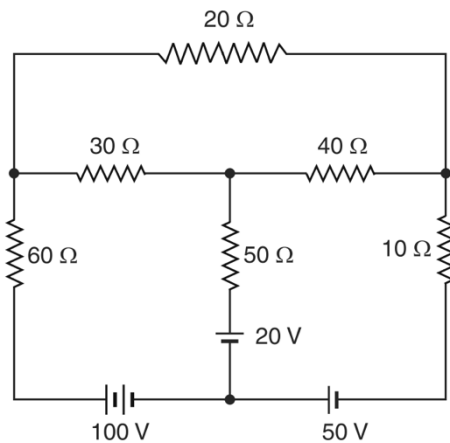

Fig. 2.1
1. By using mesh analysis, calculate the current in each mesh of the circuit shown in Fig. 2.1.